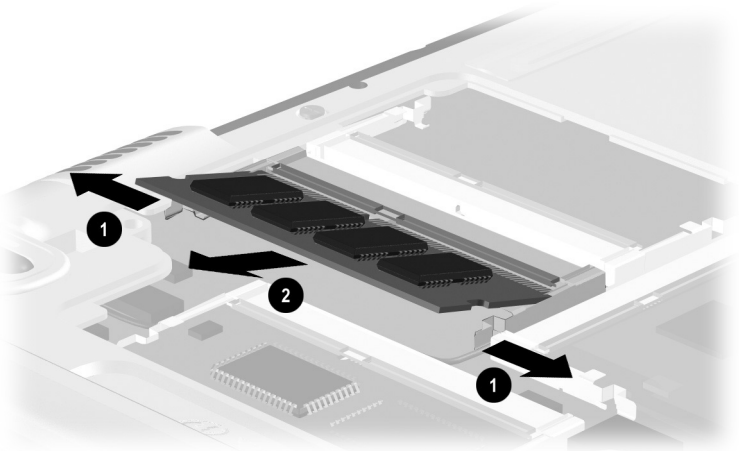

Figure 5-8. Removing the Memory Expansion Board
7. Spread the retaining tabs ❶ on each side of the memory expansion board (Figure 5-8). The board releases and rests at an angle.
8. Remove the board by pulling it away from the socket at an angle ❷.